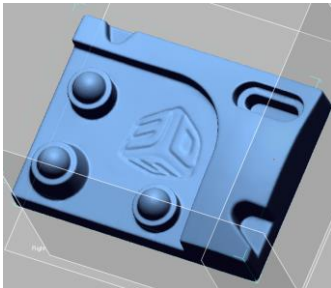

Figure 34
- In the Model Tree, turn the eye off next to **Solid Bodies**. The part should look like **Figure 34**.